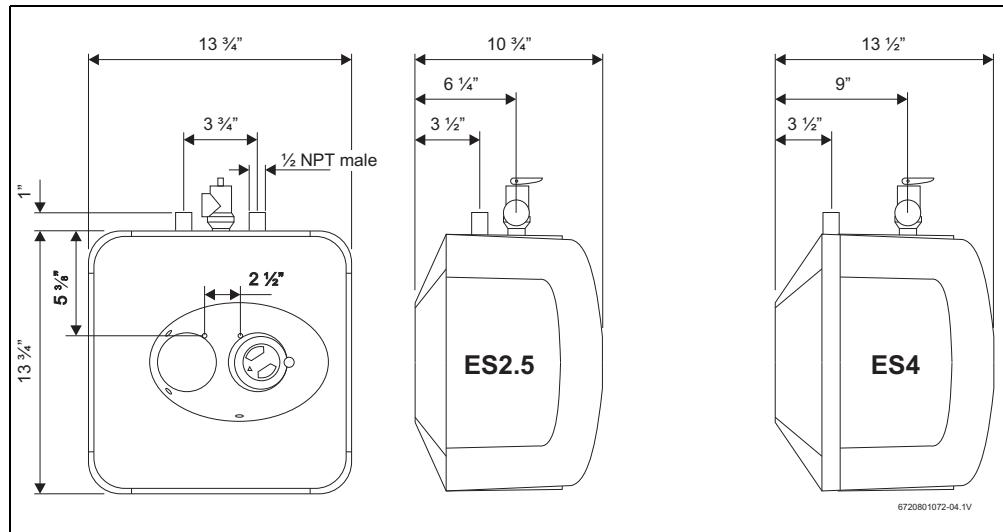

Fig. 5
- ▶ The supplied Temperature and Pressure Relief Valve will need to be installed on top. See location of T&P relief valve in → Fig. 5 and →Fig. 6.